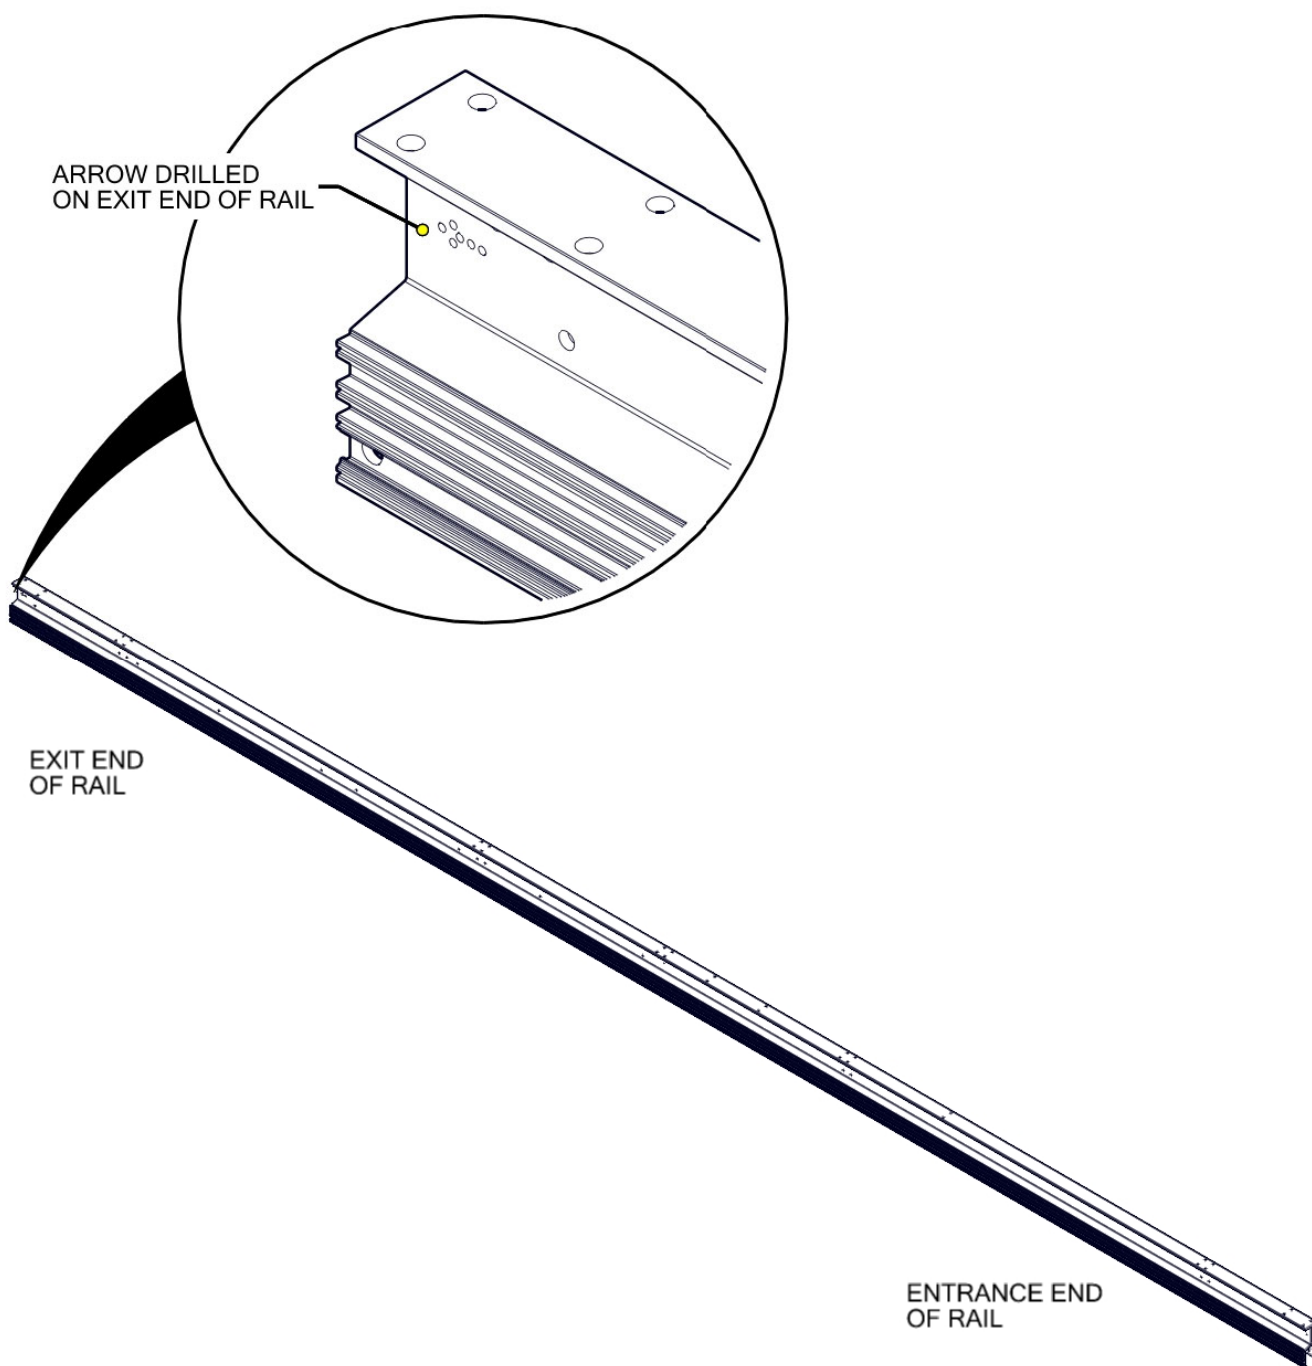

Figure 1 – Direction of Rail
- Verify direction of rails, Figure 1.